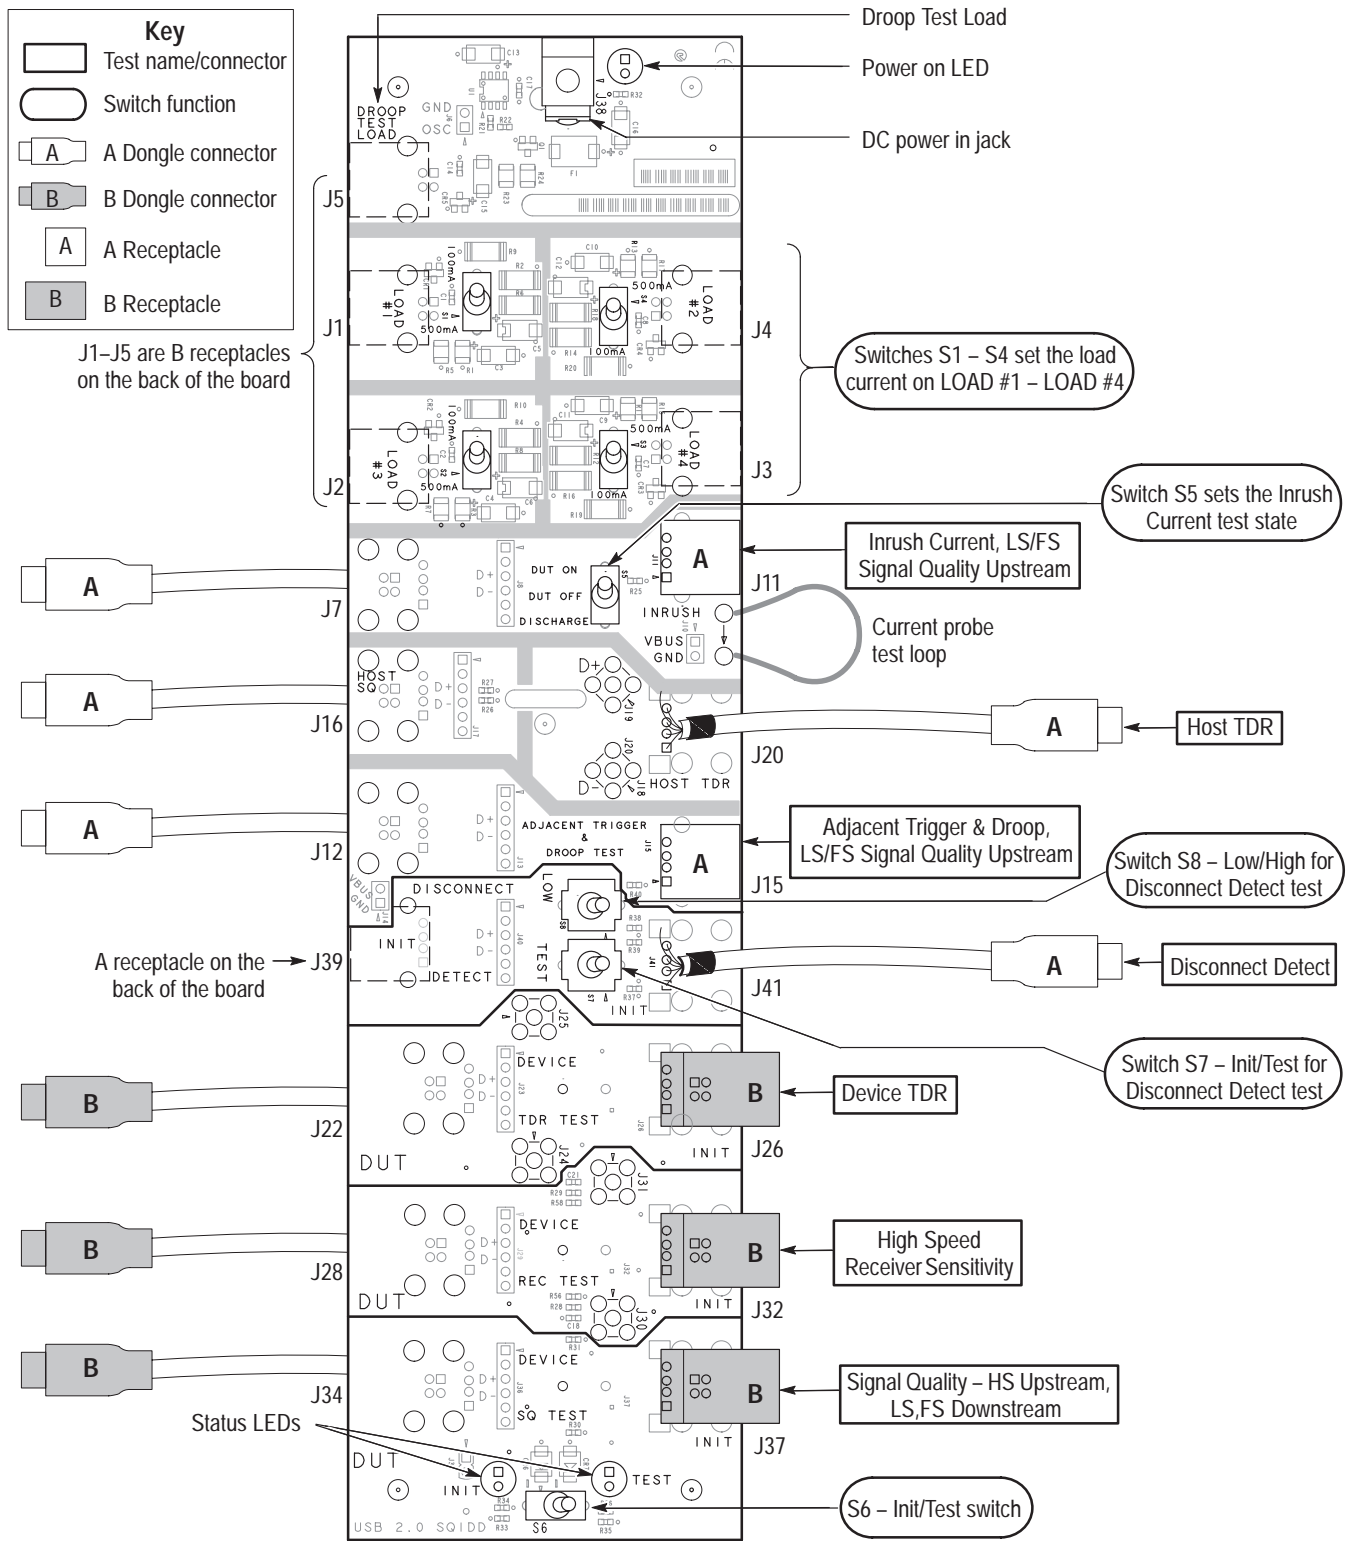

Figure 1: Fixture connections and switch functions
To use the test fixture, refer to Figure 1 on page 4, and do the following:
Use Figure 1 on page 4 and Table 1 on page 5 to prepare the fixture for specific tests.
**Signal Connections** Use Table 1 and Figure 1 on page 4 to prepare the fixture for specific tests.
Table 2 lists the details of where the SMA connectors are used. See Figure 1 on page 4 for connector locations.
Use Table 3 and Figure 1 on page 4 to configure loads for specific tests.